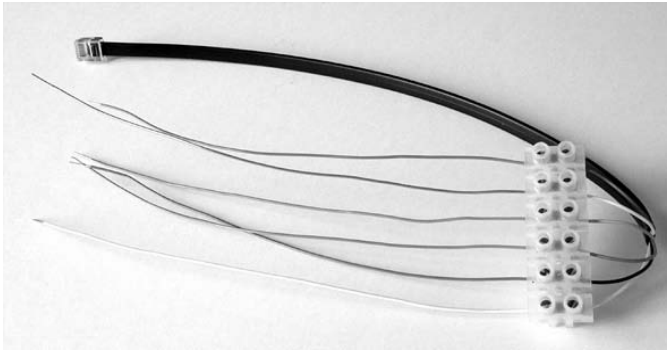

Figure 3-22. The finished screw terminal breakout box
5. Now you can connect any type of wire you need (see Figure 3-22) to extend the cable or connect it to a homebrew sensor. You should use solid wire to connect the cable to a solderless breadboard for projects described in later chapters. Appendix A describes the details for this construction method.